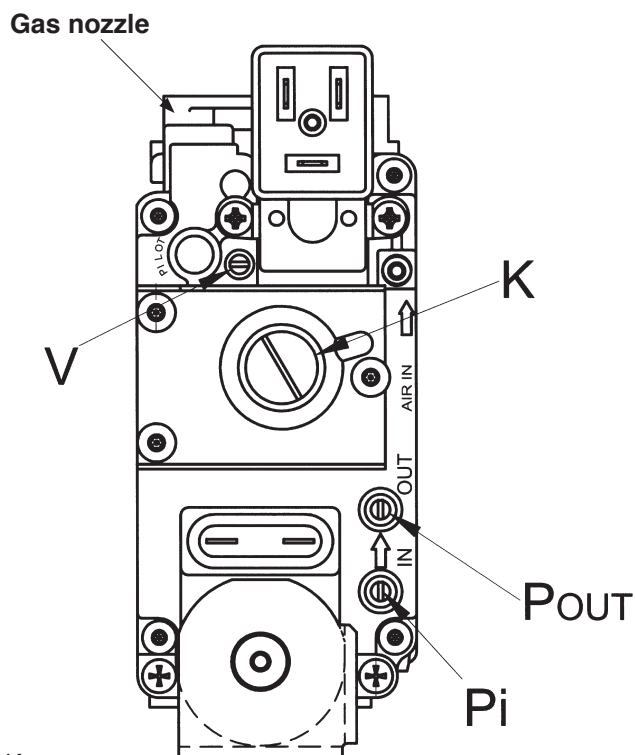

Figure 14a
13.1 SINGLE GAS VALVE MODELS (FS 90 - 105) FIGURE 14a
- For models with one valve, replace the diaphragm on the gas valve outlet (figure 14a).